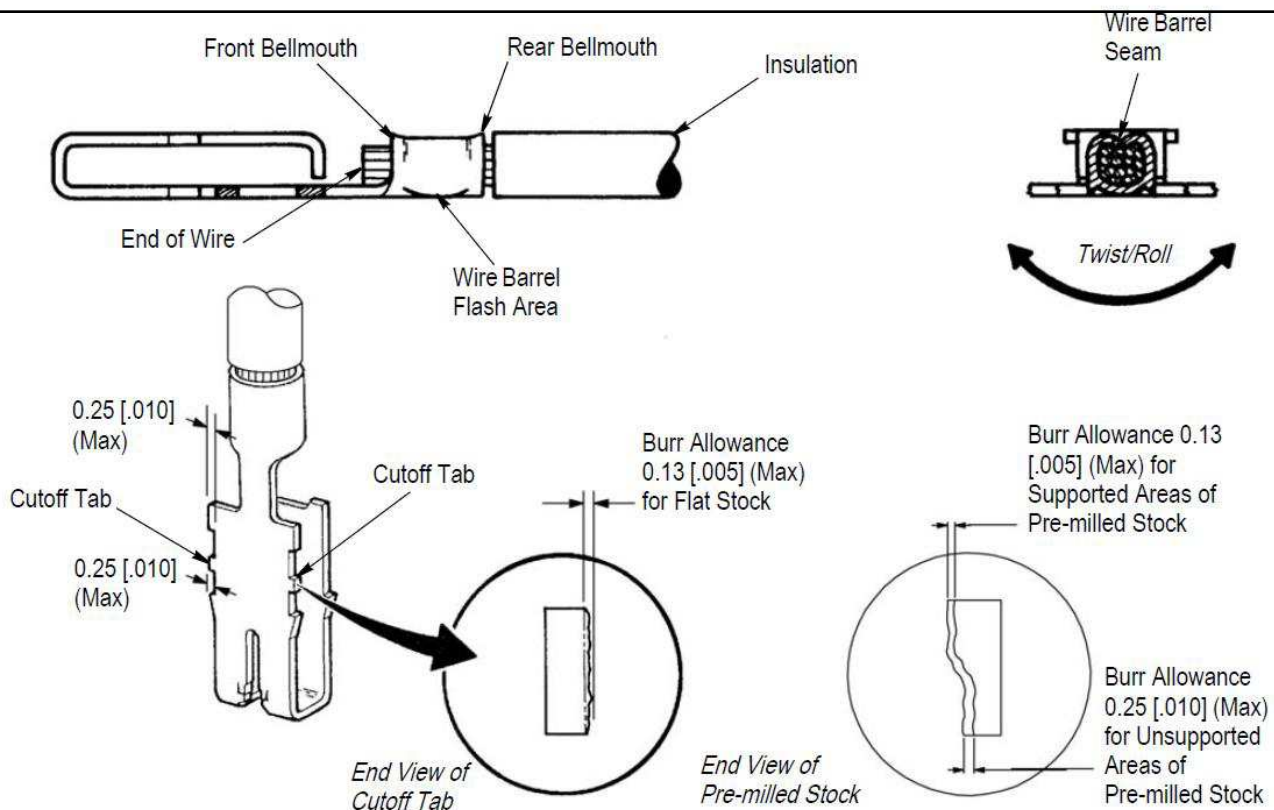

Figure 8
3.5. Terminating Wire Crimp (See Figure 8)